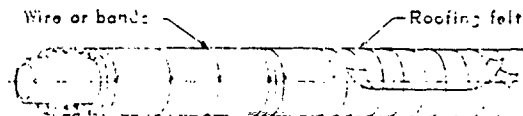

FIGURE 2
4.1 Each layer of insulation shall be applied to the pipe and secured with wire or bands as specified in Table 1. Wire shall be applied with at least four separate loops per section, twisted, bent, and hammered into the insulation. Bands shall be applied four per section of insulation; tightened and held with band seals. Wire or bands shall be located 1 inch from the ends of the section. See Figures 2, 3, and 4.